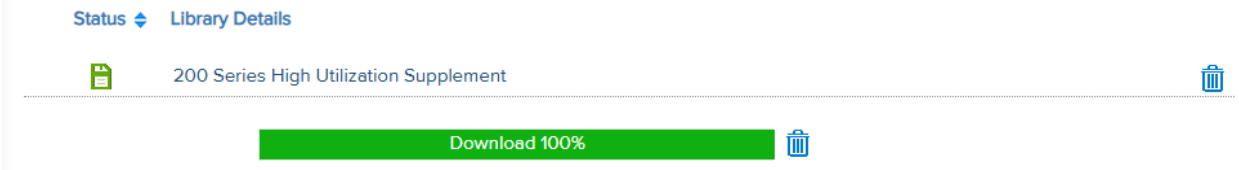

Figure 37 - Installation Progress
- Upon download completion, click the Install button that appears to the left of the Library Details side of the progression bar to initiate the installation process (Refer to Figure 37).